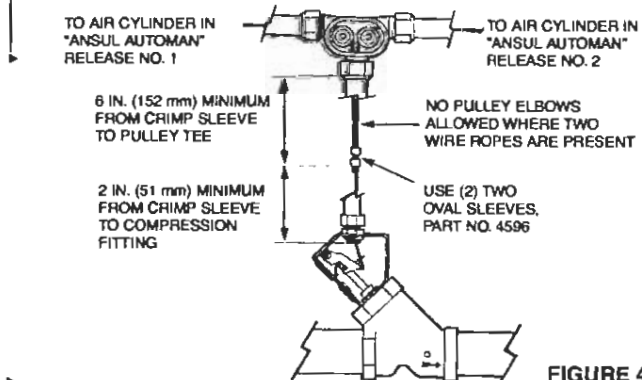

FIGURE 44
18. **Note:** If utilizing a pulley tee to operate either a single mechanical gas valve from two (2) ANSUL AUTOMAN releases or two (2) mechanical gas valves from one (1) air cylinder in an ANSUL AUTOMAN release, see Figures 44 and 45 for installation instructions. Maximum length of wire rope to each ANSUL AUTOMAN release must not exceed 150 ft (45.7 m) and maximum number of elbows must not exceed 20.